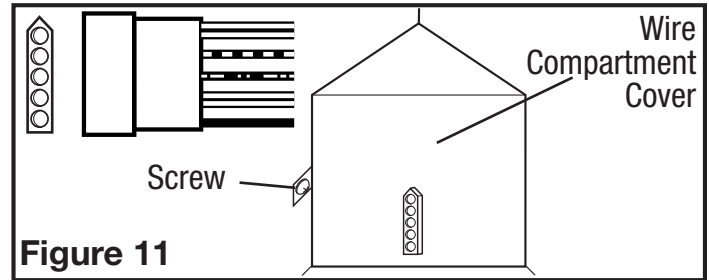

Figure 11
2. Plug the fan's quick connect motor cord into the receptacle located on the wire compartment cover. The cord will only fit one way into the receptacle (Figure 11).